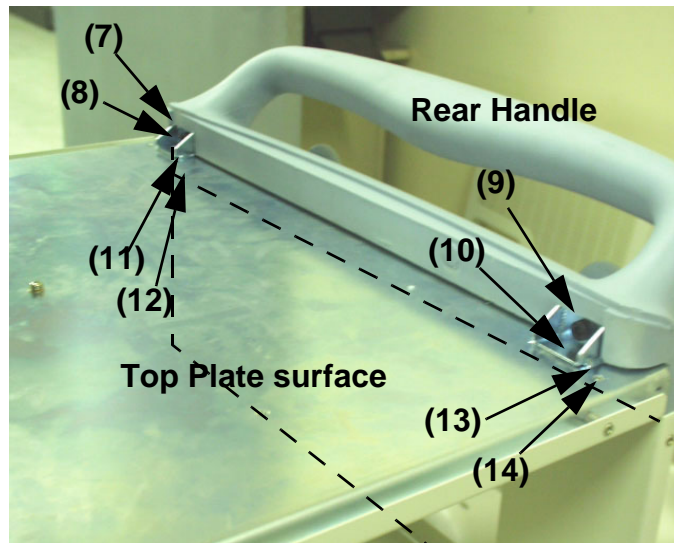

Figure 8-67 Removing the Rear Handle
- 8.) Unscrew 4 screws (9-12) below top plate surface on the Rear Handle. Refer to Figure 8-67.